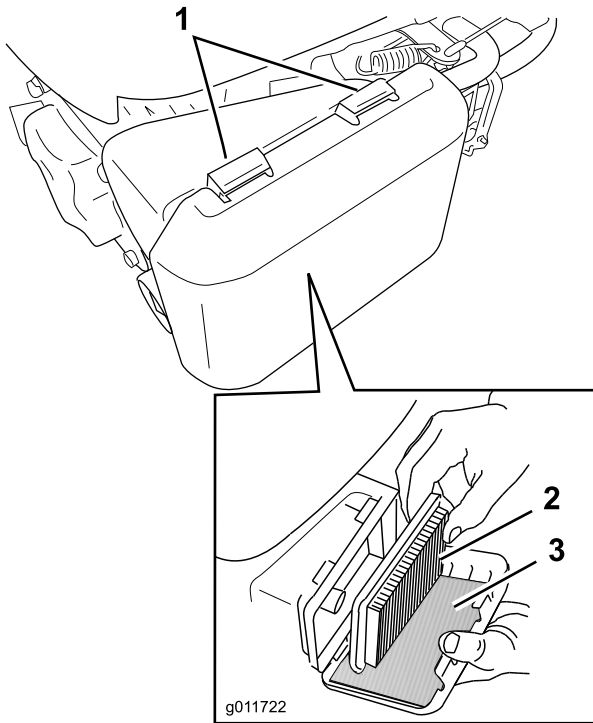

Figure 19
1. Press down on the latch tabs on top of the air-cleaner cover (Figure 19).
3. Remove the paper air filter and the foam pre-filter (Figure 19).